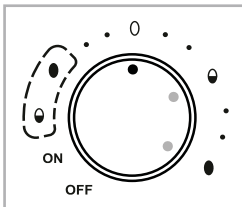

Fig. 4
- Select the **egg symbol** of the range (fig. 4) if the eggs are larger than average (size XL):